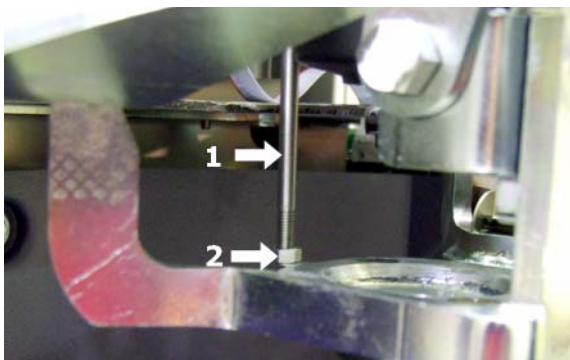

Figure 26: The striking rod (1) is locked with a nut (2) and they are behind the puncher blade.
- Open the locking nut of striking rod, see figure 26.